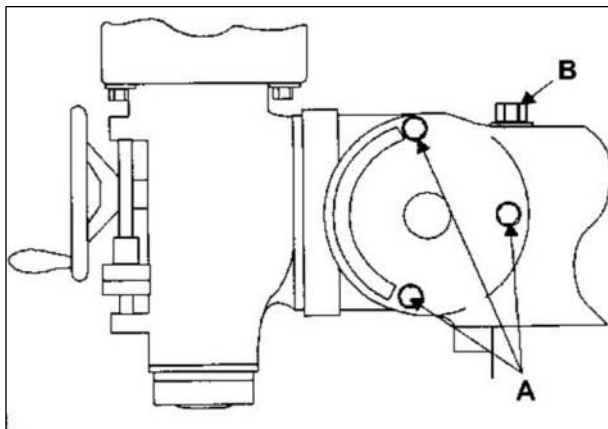

Figure 21
- a. Loosen the three ram adapter clamp bolts on the ram (A, Figure 21). There is no need to loosen the bolts more than 1/2 turn to allow tilting.
- c. Turn the ram adapter worm nut (B, Figure 21) to tilt the head forward and backward. Use the scale on the ram adapter to locate the desired angle.